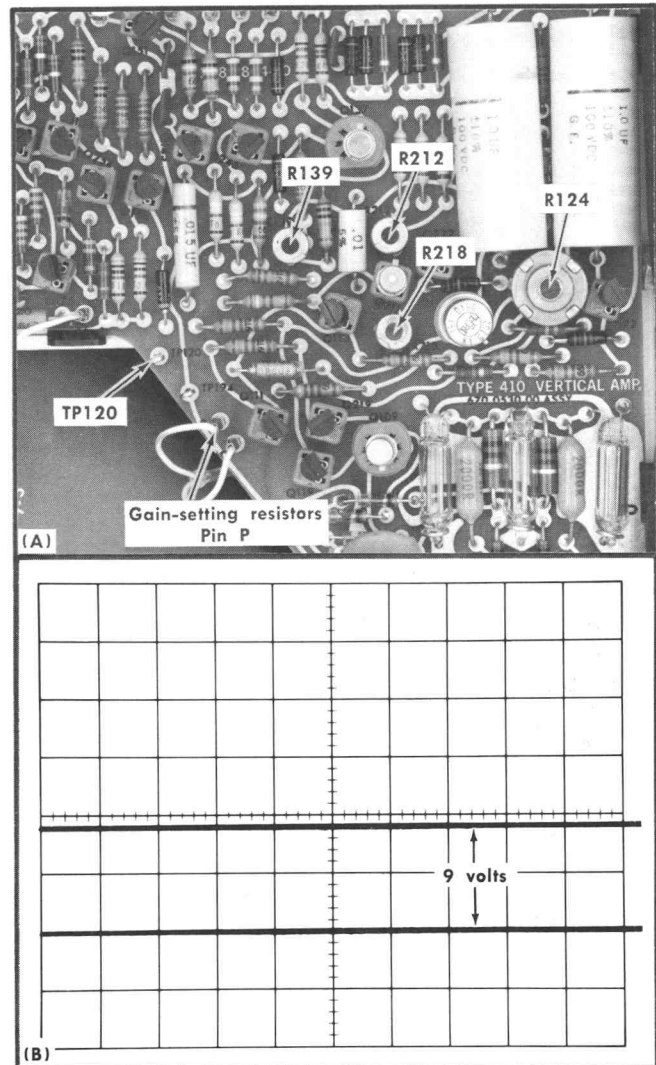

Fig. 6-8. (A) Location of Vertical Amplifier controls and test points; (B) Typical CRT display showing correct adjustment of R212, Collector Volts.
- Connect the 10 \times probe from TP120 (Fig. 6-8) on the Vertical Amp. board to the test oscilloscope Ch 1 (+) input connector.